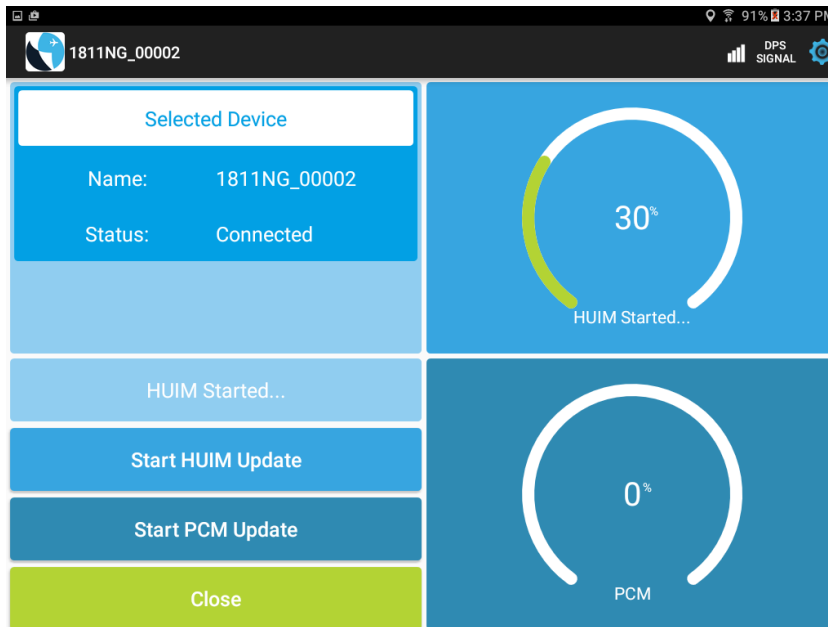

Figure E. 4 HUIM Update Progress Screen
c) Touch the “Start HUIM Update” panel. The update takes about a minute (Fig. E. 4).